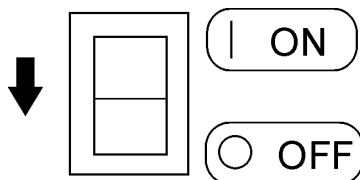

Figure 26. Idle Control Switch (Off)
2. Place the **idle control switch** (Figure 26) in the **OFF** position.